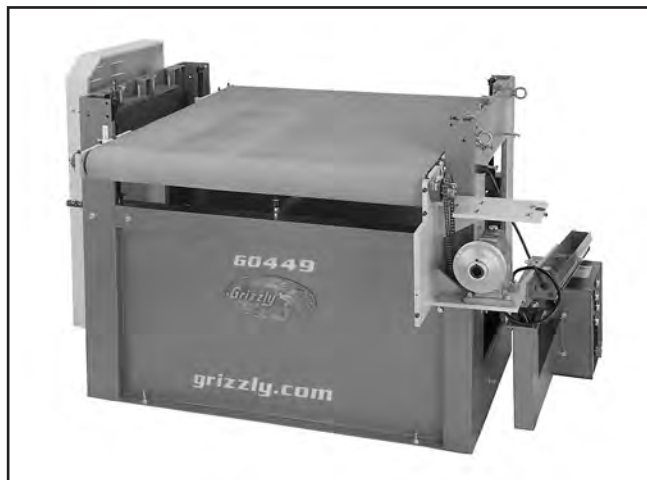

Figure 81. Drum sander disassembled for table removal.
17. Remove conveyor feed motor. Sander should now be disassembled as shown in **Figure 81**.